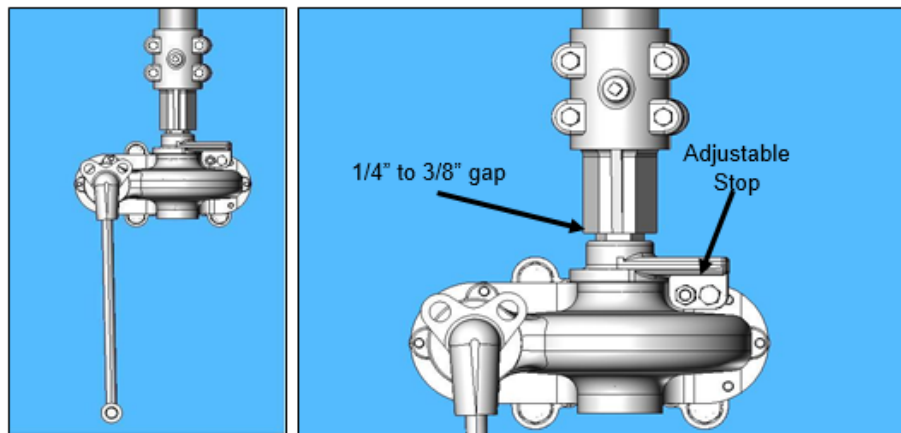

Figure 8: Type HOGO (High Output Geared Operator) Front View
- 4.2.1.2. When the switch is properly adjusted the operator handle should hang vertically and free in both the open and closed positions to permit the use of a customer supplied padlock. Refer to **Figure 8**.
5.4.1.3. Match mark, then loosen adjustable arm and clevis bolts as shown in **Figure 8**.